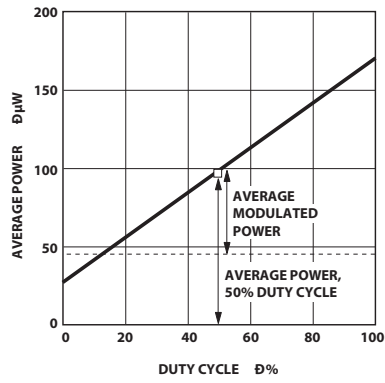

Figure 3. Average modulated power.
2. To allow the LED to switch at high speeds, the recommended drive circuit modulates LED light output between two non-zero power levels. The modulated (useful) power is the difference between the high and low level of light output power (transmitted) or input power (received), which can be measured with an average power meter as a function of duty cycle (see Figure 3). Average Modulated Power is defined as one half the slope of the average power versus duty cycle: